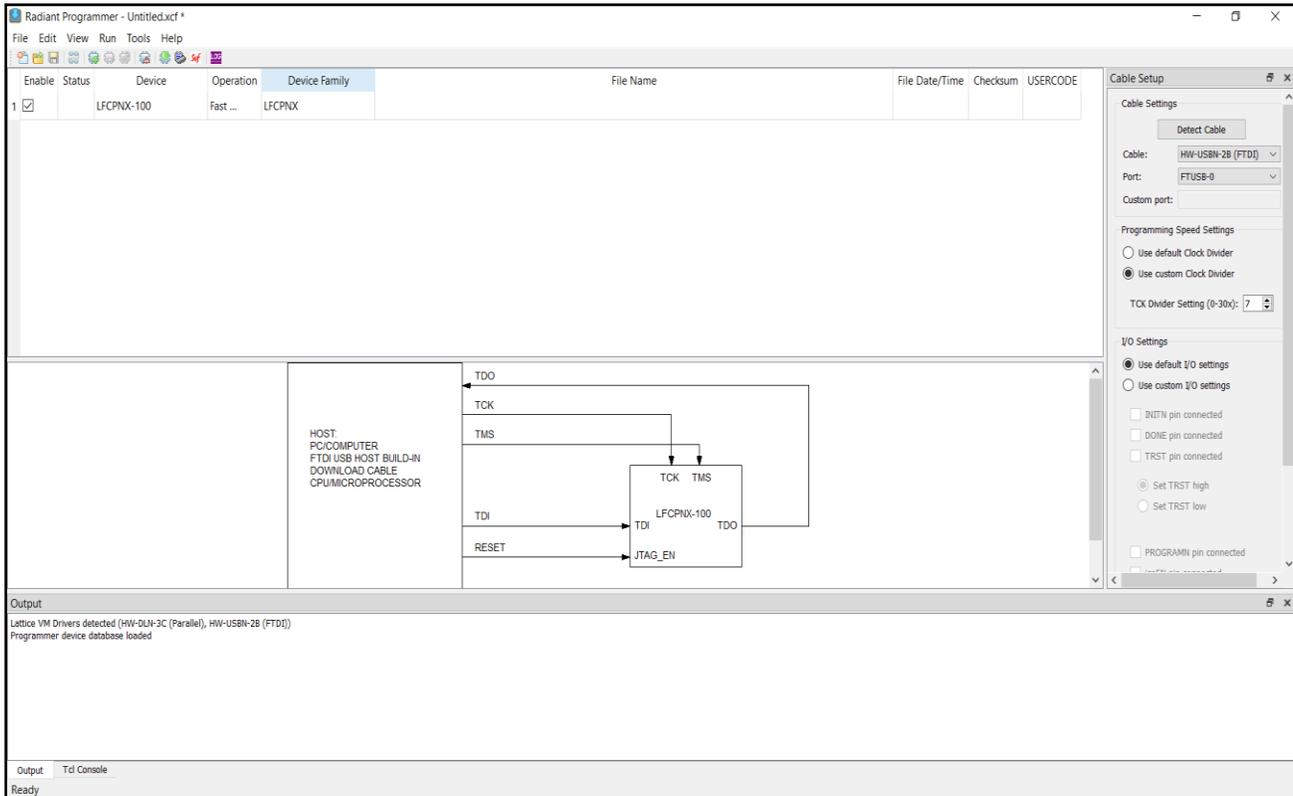

Figure 8.12. Radiant Programmer Window
2. The Radiant Programmer window is shown in Figure 8.12.